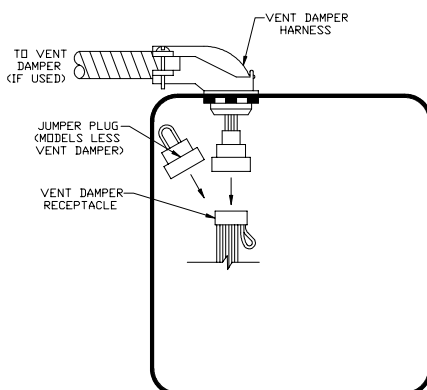

Figure 31: Vent Damper Connection Detail
- a. Remove one (1) 7/8" knockout from junction box. Carefully remove transformer - avoid undue strain on wires.
- c. Remove factory installed jumper plug (if so equipped) from Vent Damper Receptacle. Plug Vent Damper Harness into Vent Damper Receptacle. See Figure 31.
- g. Remove factory installed jumper plug from Vent Damper Receptacle. Plug Vent Damper Harness into Vent Damper Receptacle. See Figure 31.